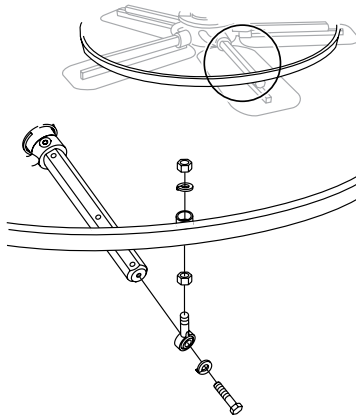

Figure 39. Stabilizer Ring
1. Remove the hardware securing the stabilizer ring to the trowel arm (Figure 39).